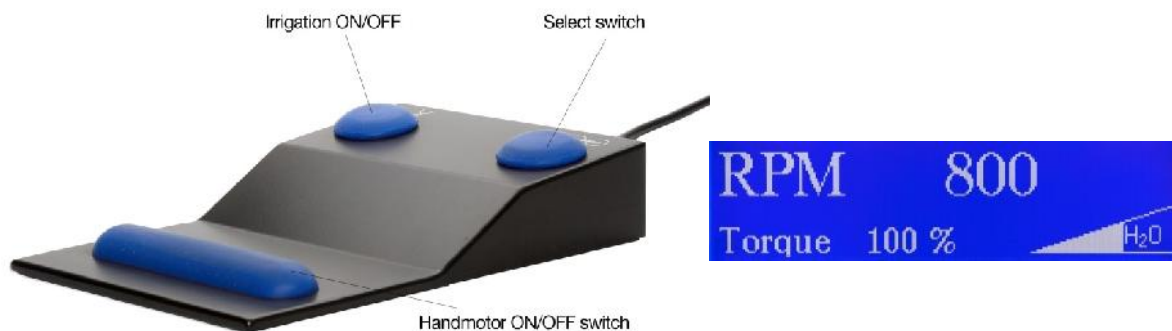

Fig. 13 + 14
4. Enter the programme by stepping on the select switch on the foot control - see Fig. 13. The display will now show the factory-made parameter settings. The example (20:1) shown in Fig. 14 tells you that output speed = 800 RPM, output torque = 100 % of max, and irrigation = about 50% of max.